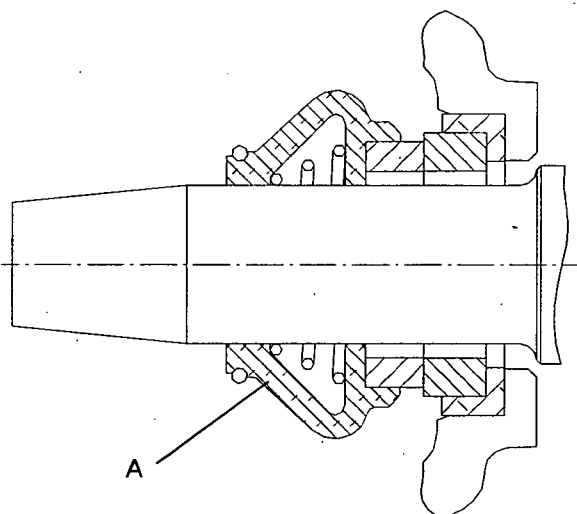

Fig. 18
c) Rubber-bellows seal - type "N" (Fig. 18)